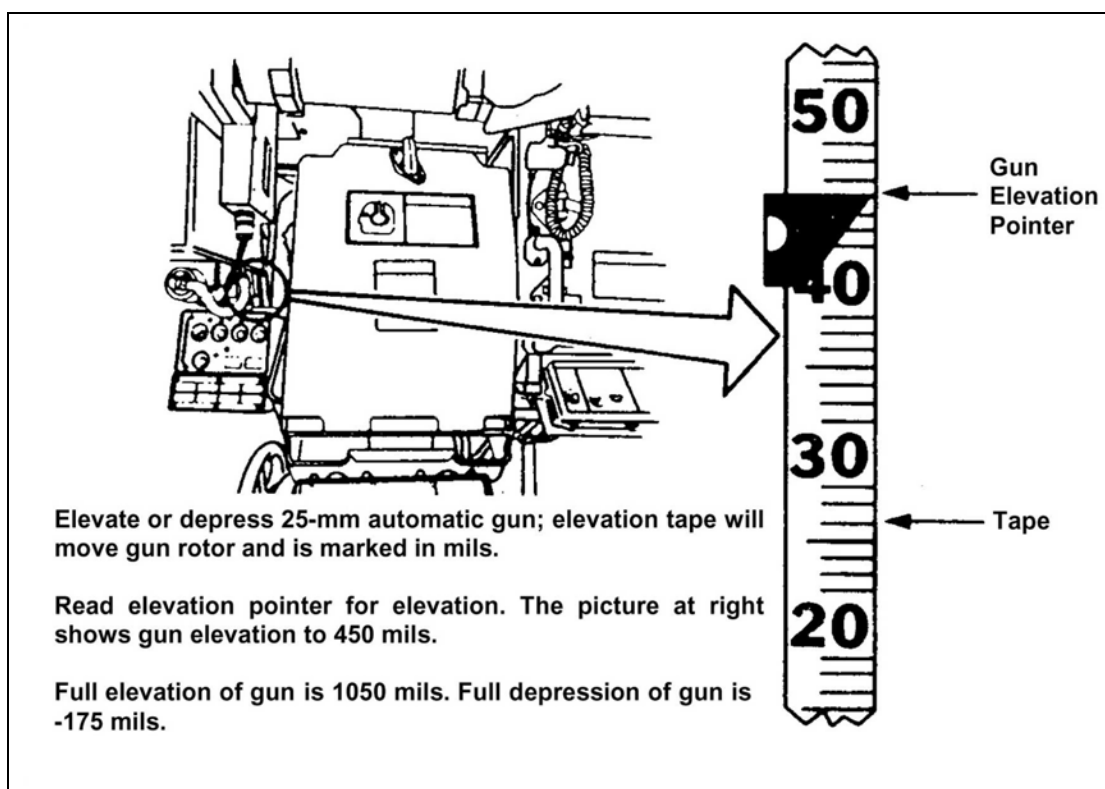

Figure 7-19. Gun elevation pointer.
(7) **Elevation.** Show the gun elevation reading in tens or hundreds of mils (Figure 7-19). The smallest increment of measure on the elevation scale is tens of mils. Precede any number other than zero with a plus (+) or minus (-) sign to show whether the gun needs to be elevated (+) or depressed (-). Index ammunition and range to obtain an accurate elevation reading.